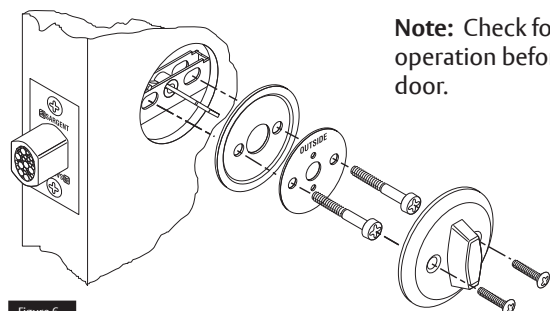

Figure 6
e. Attach Inside Trim (Figure 6)